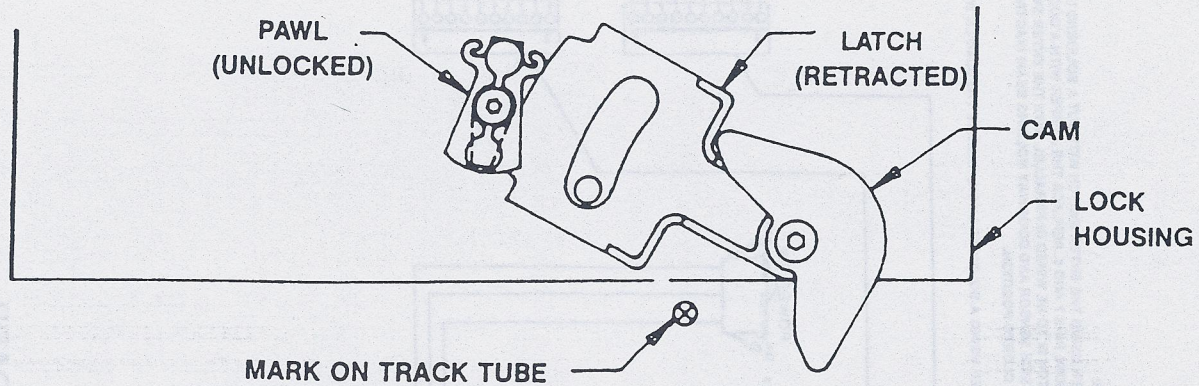

FIGURE 6.1 — "DOOR OPEN"
- 2.6 Install the new lock approximately as shown in **Figure 6.1**.
- 2.7 Manually release (unlock) the lock pawl so that the latch retracts into the lock housing as shown in **Figure 6.1**.
If the latch will not retract into the position shown in **Figure 6.1**, most probably the cam has been manually rotated so that its motion is now restricted by the switch rollers (S2 & S3). With a small screwdriver or similar tool, carefully depress the two switch rollers to release the cam and proceed.
- 3.6 Install the new lock approximately as shown in **Figure 6.1**.
- 3.7 Manually release (unlock) the lock pawl so that the latch retracts into the lock housing as shown in **Figure 6.1**.
- 4.5 Install the new lock approximately as shown in **Figure 6.1**.
- 4.6 Manually release (unlock) the lock pawl so that the latch retracts into the lock housing as shown in **Figure 6.1**.
- 5.5 Install the new lock approximately as shown in **Figure 6.1**.
- 5.6 Manually release (unlock) the lock pawl so that the latch retracts into the lock housing as shown in **Figure 6.1**.